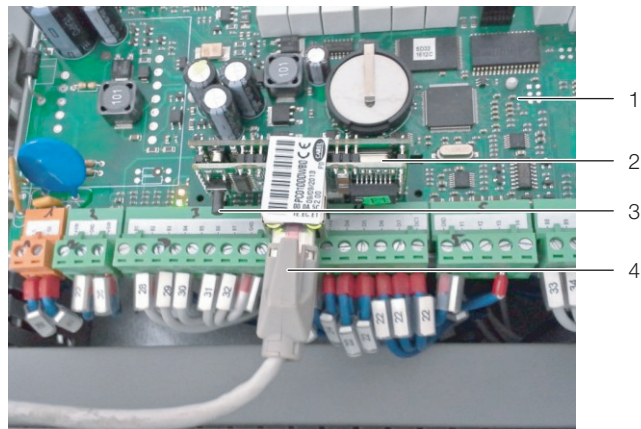

Fig. 36: pCO Web card
- Press the Reset button (fig. 36, item 3), if necessary with the assistance of a second person, and keep it held down for around 20 seconds whilst the card is booting up, until the status LED flashes three times slowly.